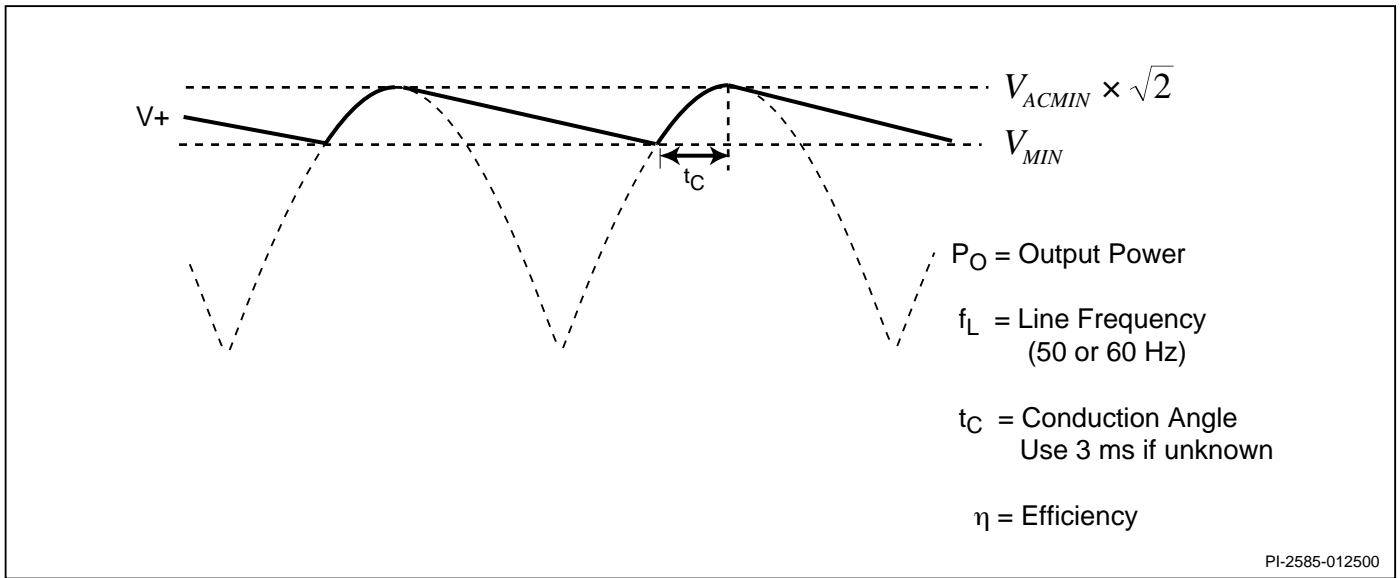

Figure 7. Input Voltage Waveform.
Step 3. Determine minimum and maximum DC input voltages V_{\min} , V_{\max} and input storage capacitance C_{IN} based on AC input voltage and P_o (Figure 7)